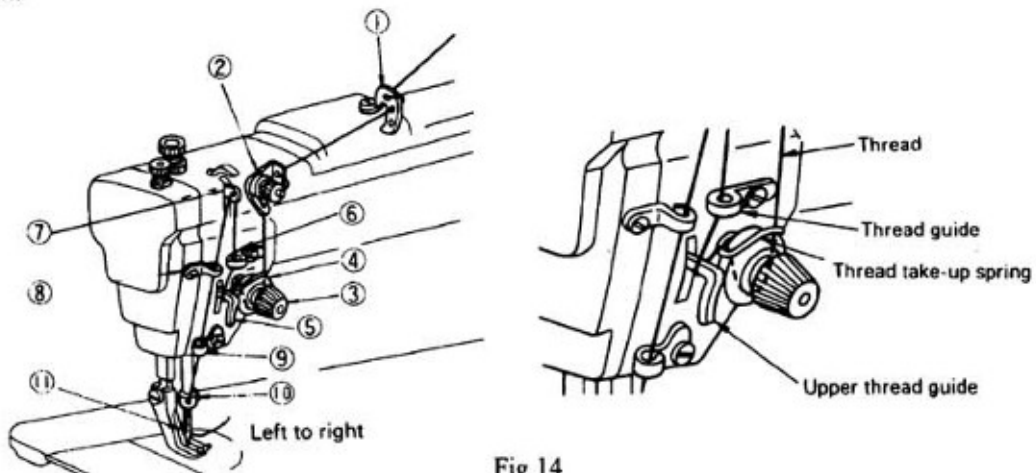

Fig.14
13. How to route the upper thread (Fig.14):